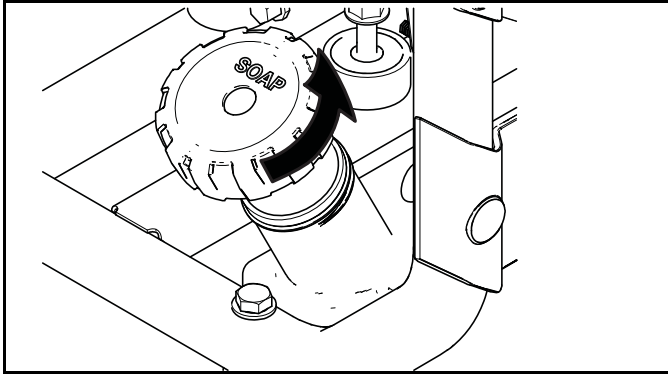

Figure 6-1. Chemical Cap/Siphon Hose
3. Remove chemical fill cap and siphon hose (Figure 6-1).